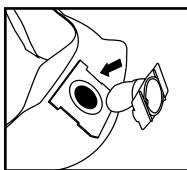

FIGURE 26
34. Position the inlet deflector with the opening facing the left or the right side of the filter bag. Slide the filter bag collar over the inlet deflector, matching the notches of the bag collar to the tabs on the inlet deflector. Bag will only fit properly one way. **FIGURE 26.**